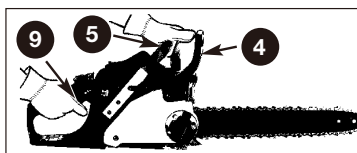

Fig. 10
3. Grasp the rear handle **9** with your right hand (Fig. 10).
4. With your left hand, hold the front handle **5** [not CHAIN BRAKE lever **4**] firmly (Fig. 10).
5. Squeeze the throttle trigger to Full Throttle, then immediately activate the CHAIN BRAKE lever (C) (Fig. 10).